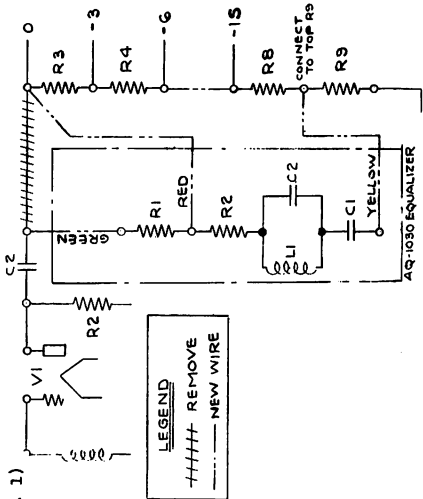

FIG. 1
4. INSTALLATION PROCEDURE (See Fig. 1)